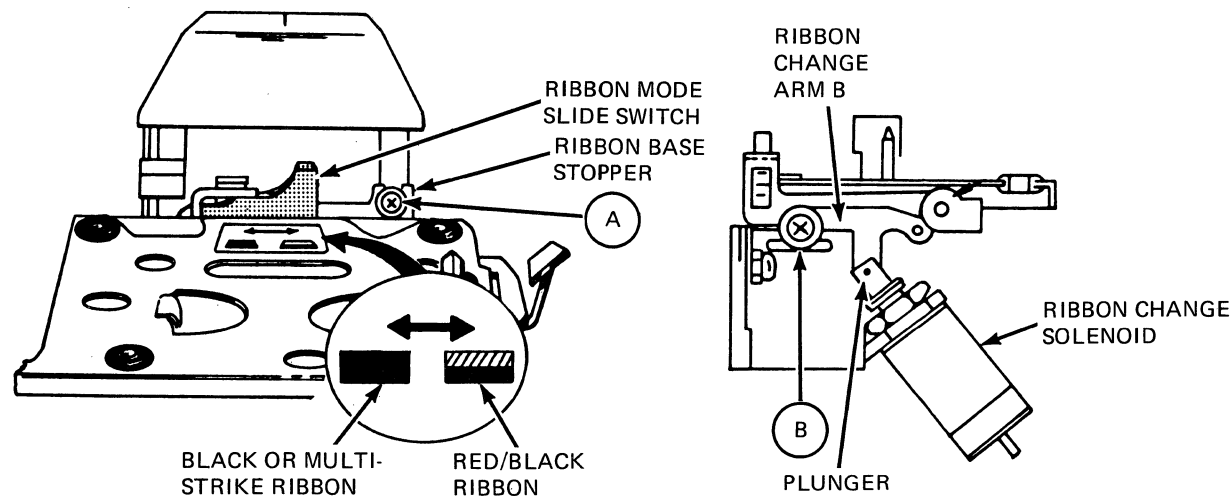
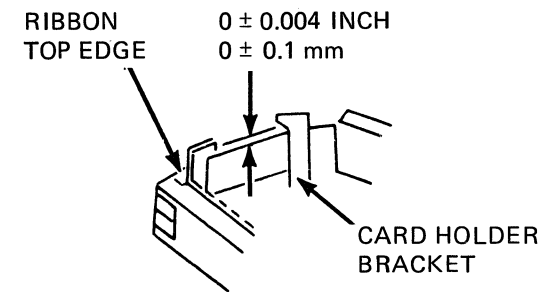

Figure 5-3 Ribbon Color Change Adjustment Location
Figure 5-4 Ribbon Color Black Adjustment
- Remove the ribbon cartridge and slide the ribbon mode slide switch to the right (red/black position) (see Figure 5-3).
- Adjust the ribbon base stopper using screw A (see Figure 5-3) so that the gap between the ribbon top edge and the top projection of the card holder bracket (see Figure 5-4) is 0 ± 0.004 inch (0 ± 0.1 mm).
- Loosen adjusting screw B (see Figure 5-3) and insert the ribbon cartridge.